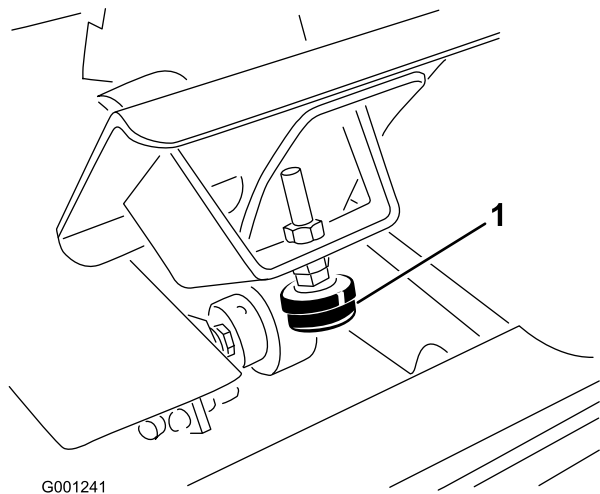

Figure 67
1. Check the traction pedal stop adjustment. The pedal stop (Figure 67) should contact the frame slightly before the pump reaches full stroke.